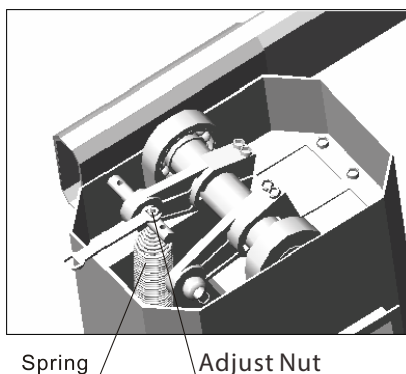
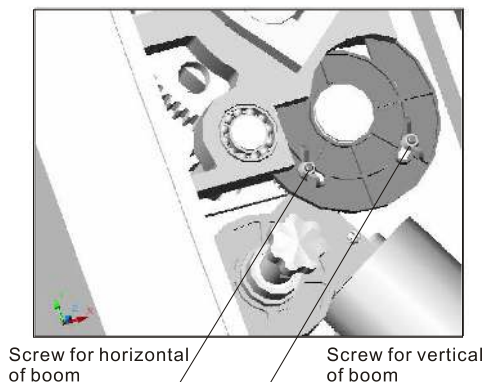

Fig3
Fig.4
3) Adjust the limit position (Fig.3 and Fig.4)